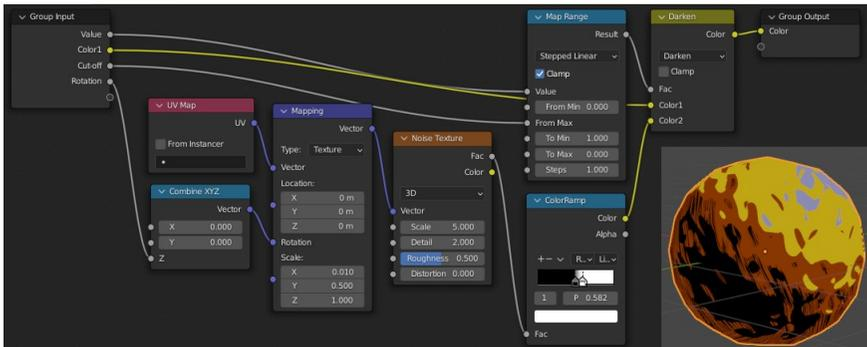

Figure 13-5 The Nodes inside the hatched_shader_stop node group.
4. In order to construct the hatched texture you need to add some more nodes: UV map, vector mapping, noise texture and a color ramp, all of which you've used before several times. You need to use the rotation as the Z value of an XYZ vector as the vector mapping node requires a vector input, add this by selecting Add Converter Combine XYZ. To simplify the vector rotation operation, set the Type field of the vector mapping node to **Texture**. The node layout for the group is shown in Figure 13-5.